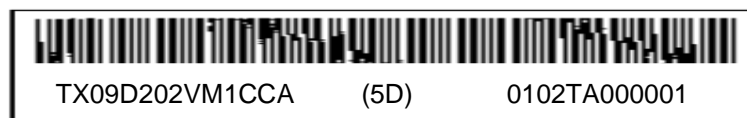

Fig. 14.2
4) The location of the lot mark is on the PCB shown in Fig. 14.2.